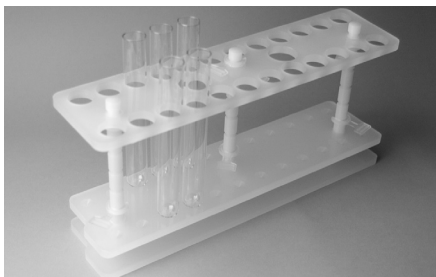

figure 7
- C. Place the upper rack with the proper diameter holes onto the attachment posts as shown in (*figure 7*).